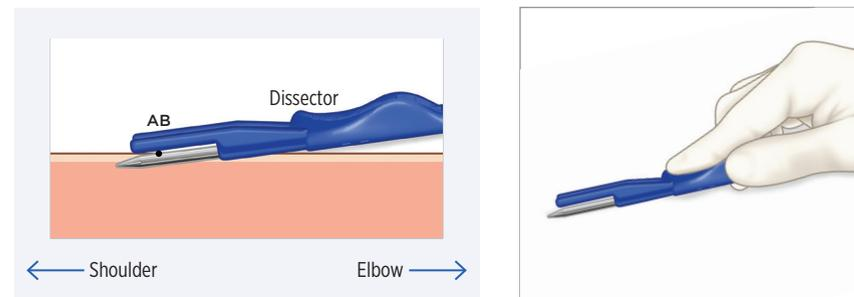

Figure 3
3. With the tips of the depth guards on the skin and the blunt dissector at the subcutaneous space, lower the angle of skin entry to approximately 5-10 degrees (Figure 3) taking care to ensure that the fingers are not under the metal rod or plastic portions of the tool which would cause a steeper angle.
4. Move the blunt dissector toward the shoulder, while maintaining the metallic and plastic parts of the tool in close contact with the skin to ensure the smallest possible angle of the pocket with respect to the skin (Figure 3).